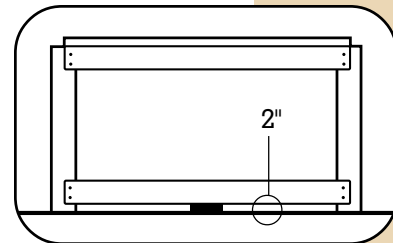

Fig. 33
- Once the top Side Rail has been installed, place one Side Rail at the bottom of each Rail section (Fig. 33). Pre-drill and place two #8, 2-1/2" stainless steel or galvanized deck screws 1" from the end of each Side Rail and fasten into each 4x4 post- be sure to level and square the bottom Side Rail. **There should be no more than 2" from the deck surface to the bottom edge of the Side Rail\* (Fig.33).** There should be a minimum 1/16" gap between each Side Rail to allow for expansion and contraction.
- Block each 6' Rail section at the bottom at least once for support (Fig. 33).